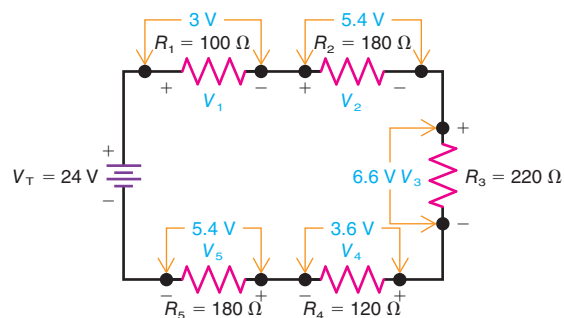

Figure 13-15 Circuit diagram. Normal values for V_1 , V_2 , V_3 , V_4 , and V_5 are shown on schematic.
- 13.4 Table 13-1 shows voltage measurements taken in Fig. 13-15. The first row shows the normal values that exist when the circuit is operating properly. Rows 2 to 15 are voltage measurements taken when one component in the circuit has failed. For each row, identify which component is defective and determine the type of defect that has occurred in the component.
Table 13-1 Voltage Measurements Taken in Fig. 13-15